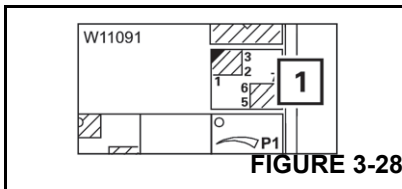

FIGURE 3-28
Press the button (1) (Figure 3-28) once.